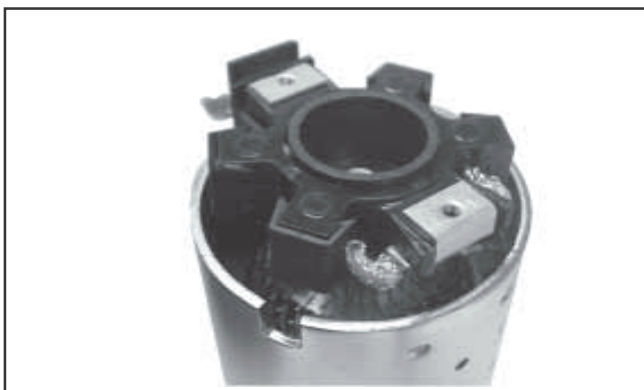

Figure 7-39. Installing Brush Holder Assembly with Supplied Tube.
- a. Hold the starter assembly vertically on the end housing, and carefully position the assembled brush holder assembly, with the supplied protective tube, against the end of the commutator/armature. The mounting screw holes in the metal clips must be **up/out**. Slide the brush holder assembly down into place around the commutator, and install the positive (+) brush lead grommet in the cutout of the frame. See Figure 7-39. The protective tube may be saved and used for future servicing.